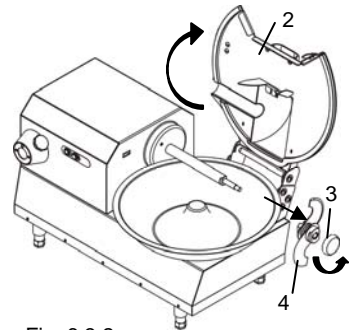

Fig. 6.3.2
- Raise the lid "2" (Fig. 6.3.2).
- Turn the lock knob of the blade holder "3" (Fig. 6.3.2).
- Remove the blade holder "4" (Fig. 6.3.2) from the shaft
- Raise the lid "2" (Fig. 6.3.2) and extract it from its seat.